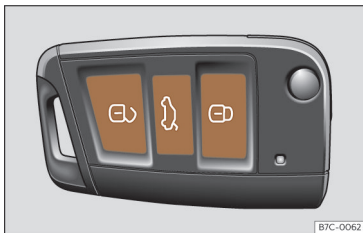

Fig. 48 Remote control key: keys.
- Lock: press the  >>> **Fig. 48** button.